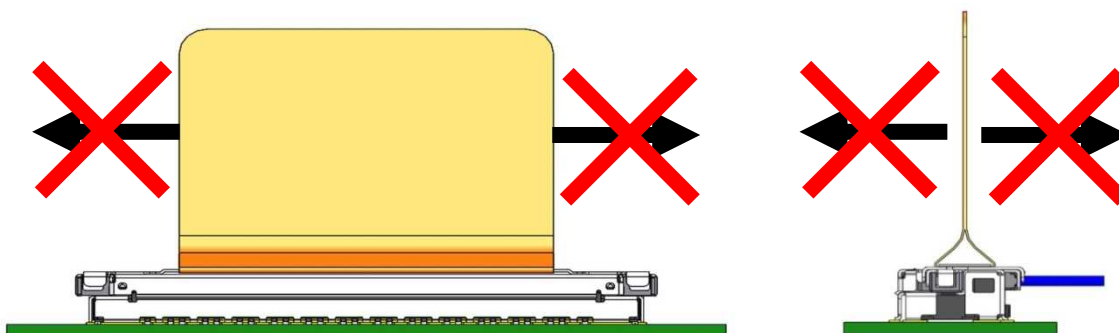

Fig.28 Prohibited PULL TAPE pulling direction
- Do not pull the PULL TAPE toward arrowed direction, or it may tear the PULL TAPE and deform SHELL-A and PULL TAPE HOLDER. Make sure to hold center of the PULL TAPE and pull it up vertically. [Fig. 28]